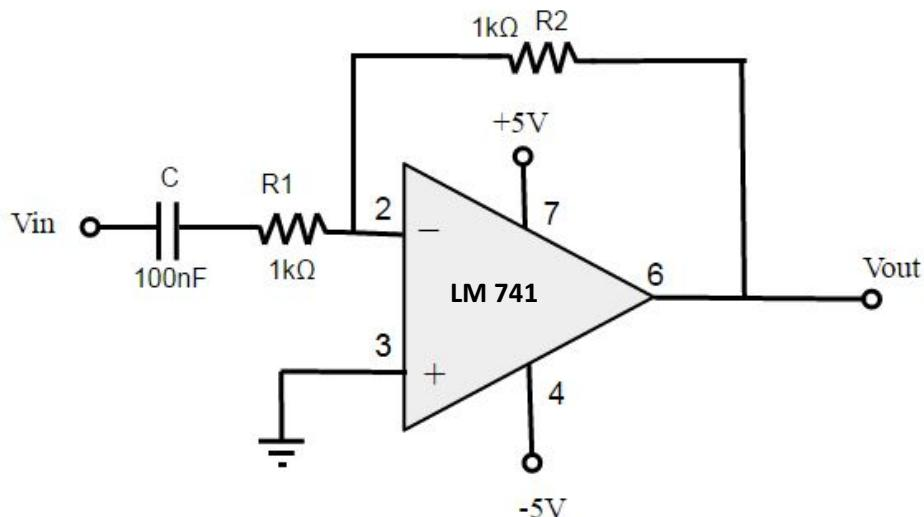

Figure 8. Schematic of a high-pass filter.
1. Build the active high-pass filter shown in Figure 8.